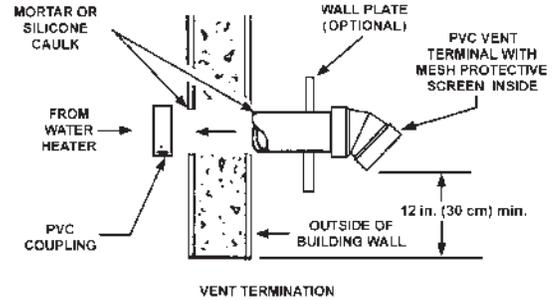
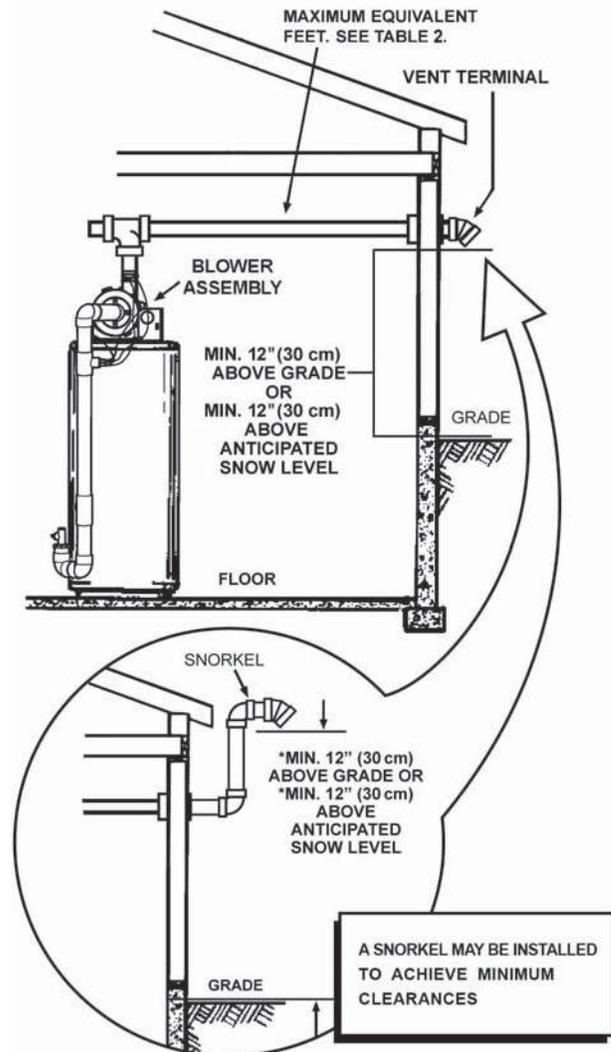
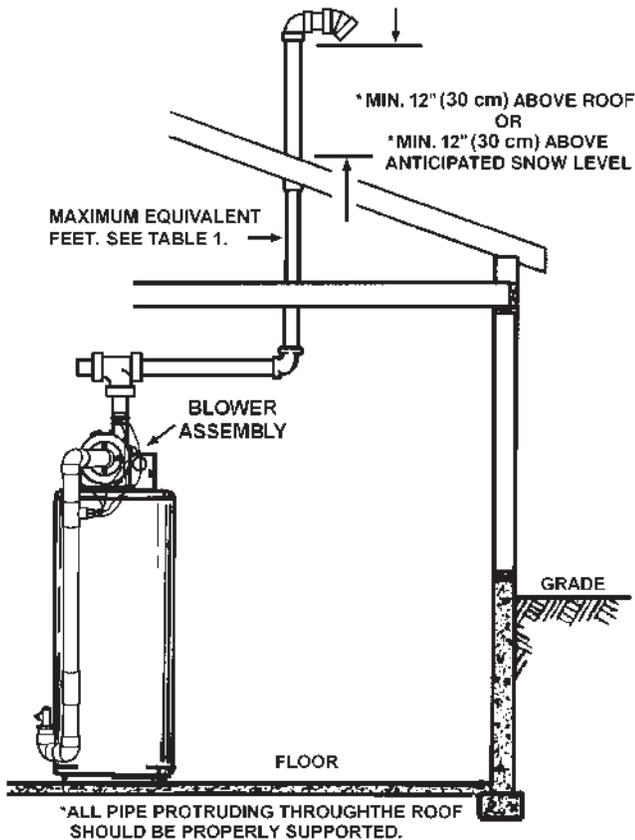

Figure 17. Sidewall Vent Termination
Figure 18. Sidewall Vent Installation
Figure 19. Through-the-Roof Vent Installation
**There will be some installations where condensate will be formed in the horizontal runs of the vent system.** This condensate will run into the condensate boot attached to the blower and out the fitting. The water heater is shipped with condensate hose that attaches to the fitting on the condensate boot. No other Tee or fitting is required. See *Figure 17* (page 22), *Figure 18* (page 22) and *Figure 19* (page 23).
3. The blower discharge adapter is made to accept only straight sections of 2" pipe. To start, a minimum of 2 inches (5.1 cm) of 2" pipe must be attached to the blower discharge. See *Figure 17* (page 22).
The first step is to determine where the vent pipe will terminate. See *Figure 25* (page 27), *Figure 18* (page 22), and *Figure 19* (page 23). The vent may terminate through a sidewall as shown in *Figure 18* or through the roof as shown in *Figure 19*.
5. Slide the pipe through the wall and insert into the coupling on the other side of the wall, making sure that the vent terminal ends up pointed in the correct position. See *Figure 17*.
It is recommended that the completion of the venting system start at the blower assembly and run to the coupling on the inside wall of the vent terminal. See *Figure 17*.
If necessary to achieve the 12" minimum clearance above the highest anticipated snow level, install a snorkel as shown in bottom portion of Figure 19.
**Note:** Vent Termination must extend a minimum of 12 inches (30 cm) above roof or 12 inches (30 cm) above the anticipated snow level to prevent blockage of the vent termination, as shown in Figure 18 and Figure 19 (page 22).